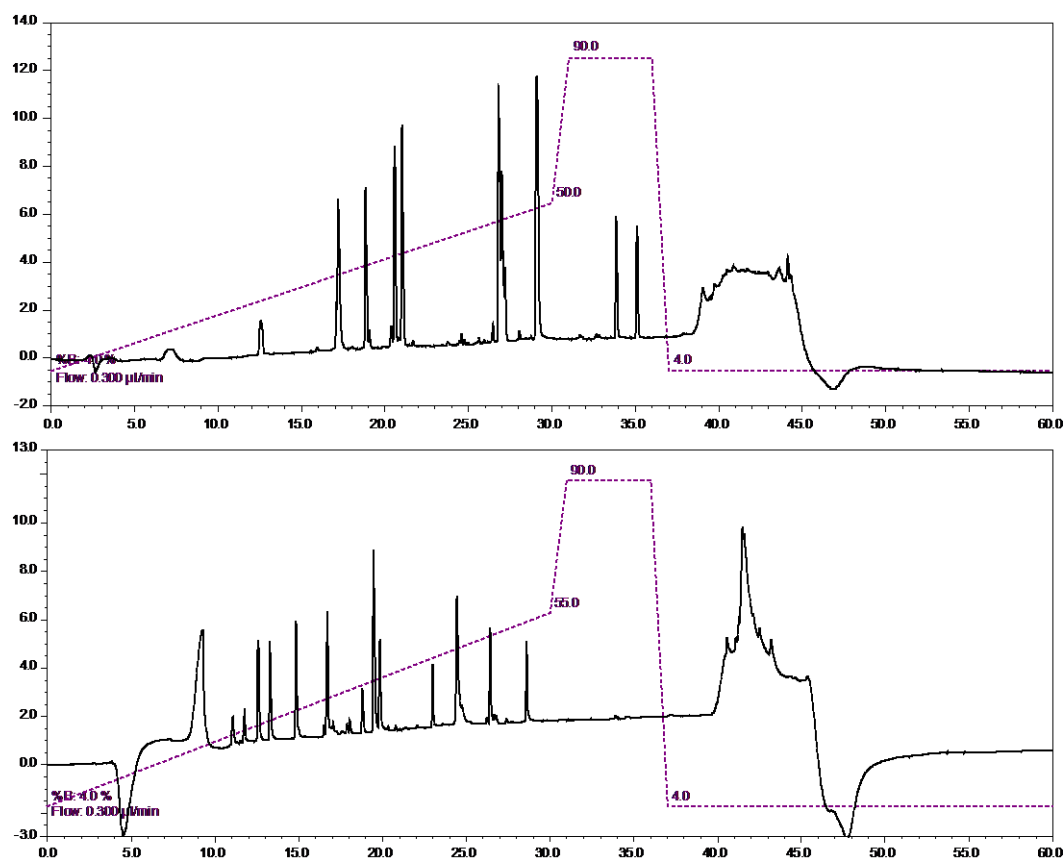

Figure 46: Comparison of Cytochrome C separation with different ion pairing agents. Top uses 0.05% TFA and bottom 0.1% FA
Most commonly, trifluoro acetic acid (TFA) and formic acid (FA) are used. In this manual and in most LC-MS applications, FA is preferred as its use minimizes ion-suppression effects. TFA is a stronger ion-pairing agent and results in better chromatography, but can result in ionization suppression. The use of TFA is generally restricted to the loading buffer or when increased retention (compared to FA) is necessary. When performing the applications described in this manual with TFA instead of FA, use the amounts given in *Table 24*. *Figure 46* demonstrates the effect of ion pairing agent choice on the chromatographic separation of Cytochrome C.